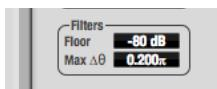

Figure 10-29: Filters
The *Filters* section (Figure 10-29) lets you control the density of the Phase Analysis display.
*Floor* (Figure 10-29) determines the amplitude threshold for the display. When the amplitude of both channels drops below this threshold, the signal is not shown.
*Max delta theta* (Figure 10-29) only affects Line view (see “Line/Scatter” on page 69) and sets the maximum difference in frequency between plot